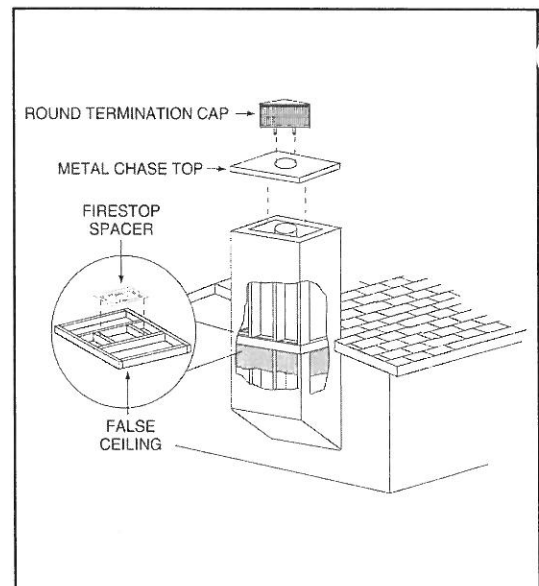

Figure 19 - Chase Assembly
- In cold climates, the walls of the chase should be insulated to the level of the false ceiling as shown in Figure 19. This will help reduce heat loss from the home around the fireplace.